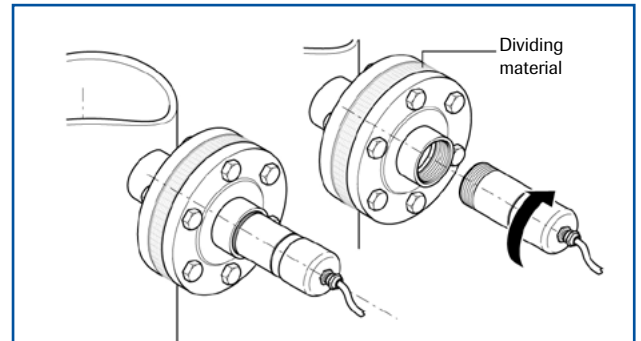

Fig. 6: mounting with separating flange
- for high-temperature and high-pressure applications with a separating flange (Fig.6)